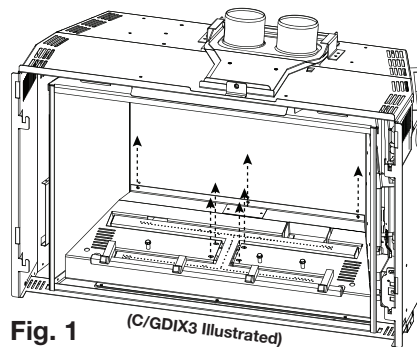

Fig. 1 (C/GDIX3 Illustrated)
2. Remove the 7 screws that secure the log cover in place. Lift the cover out (**Fig. 1**).